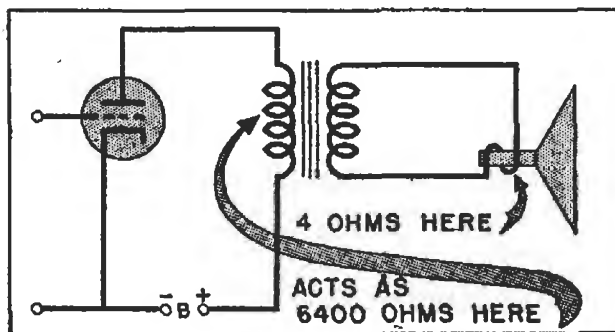

FIG. 13. The impedance-matching transformer causes the load to act in its primary circuit as the required impedance value.
► Now, knowing the voltage across the primary and the current that must pass, we can find the primary impedance. From Ohm's Law, $Z = E_p \div I_p = 160 \div .025 = 6400$ ohms. At the beginning, we assumed a tube impedance of 6400 ohms, so the tube and the effective primary value are matched or equal. Thus, when the connections are as shown in Fig. 13, the tube "sees" the 4-ohm loudspeaker through a 40-to-1 transformer as a load of 6400 ohms, so it delivers the maximum power to the transformer for transfer to the speaker.
which is the equivalent circuit for Fig. 13. In effect, the transformer "reflects" the value of R_L into the plate circuit as R_A —a value which is equal to R_L times the square of the turns ratio of the transformer.